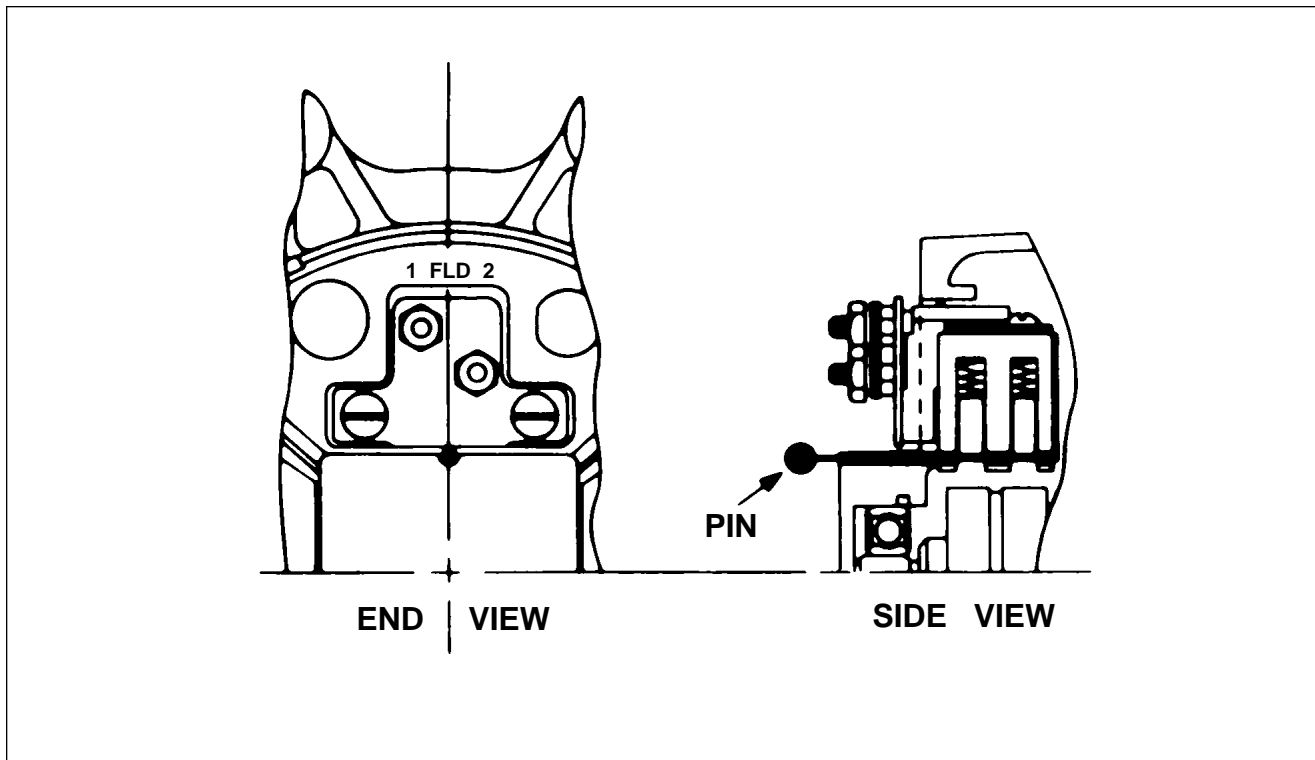

Figure 24-14. Prestolite Alternator Brush Installation
- c. Brushes: These units have a separate brush holder assembly installed after alternator assembly. Brush holder has a small hole that intersects the brush cavities. Use a pin or wire, as in figure 24-14 to hold brushes in holder during assembly. Remove pin after brush holder retaining screws are tightened. Check brushes are seated against slip rings.